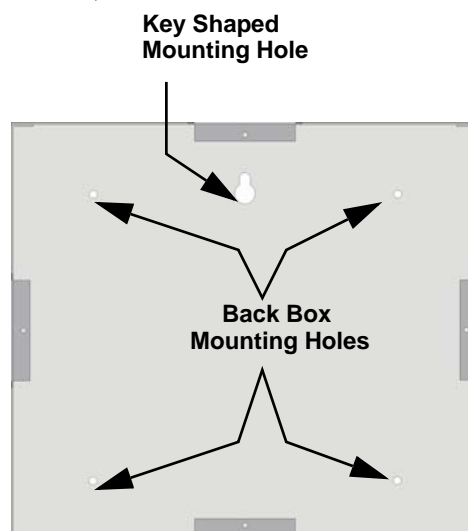

Figure 4-15 Back Box Surface Mount Holes
2. To properly mount the back box, insert a single screw into the key shaped mounting hole. Do not tighten all the way. See Figure 4-15.